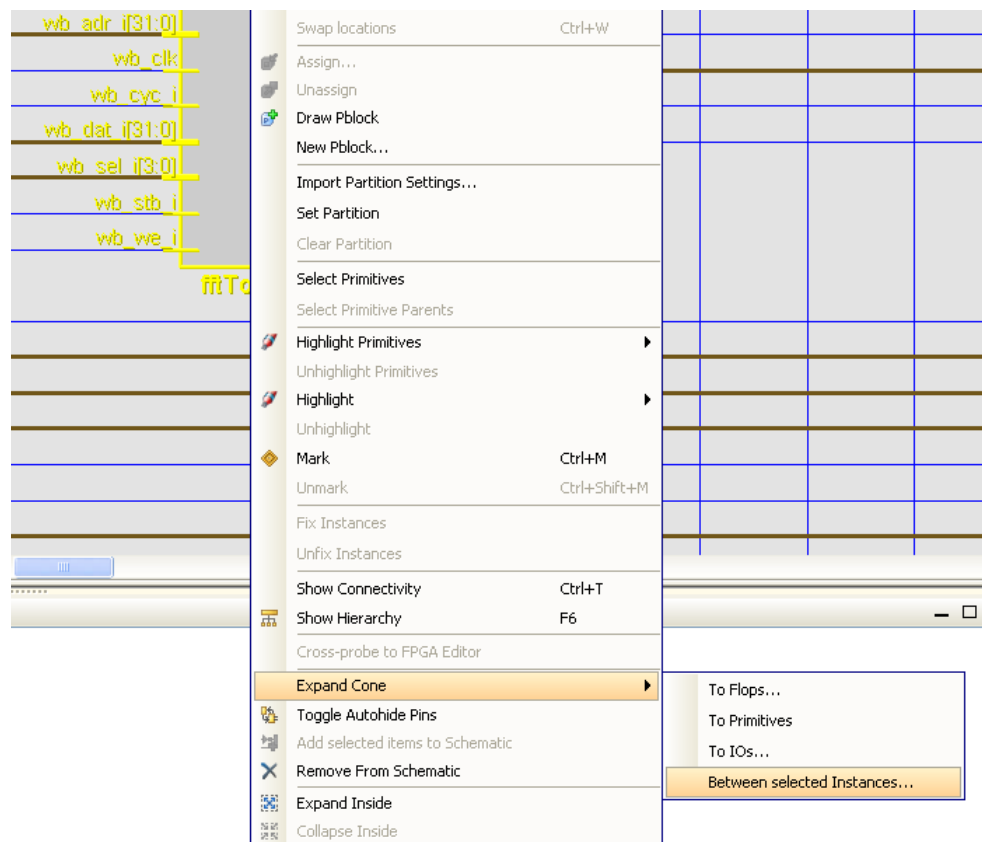

Figure 4-50: Expand Logic Cone
- Use the **Expand Cone** command from the popup menu to expand the cone of logic from a selected pin or instance, or between two selected instances. The available **Expand Cone** options, as shown in Figure 4-50, are: